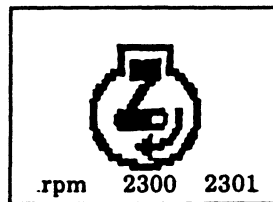

Fig. 4 An example of engine revolution display when running
- 4) If the engine is started here, the display will be as shown on the right, for instance. (Fig. 4.)